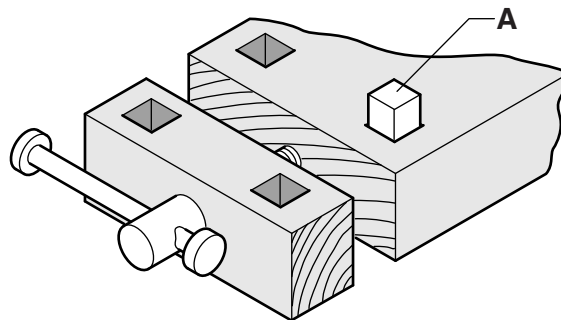

Fig. 7
- 8 Fig. 7 shows part of a woodworker's bench.
- (a) Name the piece of equipment labelled **A** in Fig. 7.